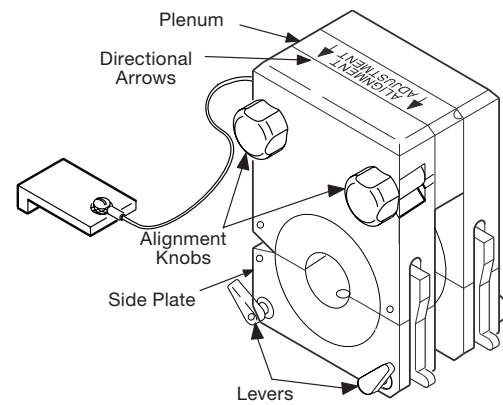

Figure 17 *Loosening the Side Plate*
1. Turn the fixture block over and locate the directional arrows on the plenum. The arrows point to the appropriate side plate. See Figure 17.
2. Loosen the two alignment knobs just enough to loosen the side plate from the plenum. See Figure 17.